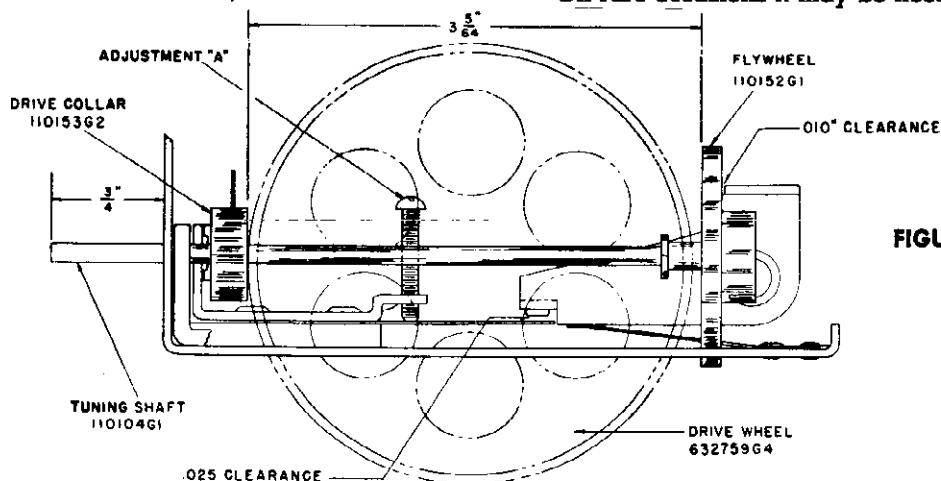
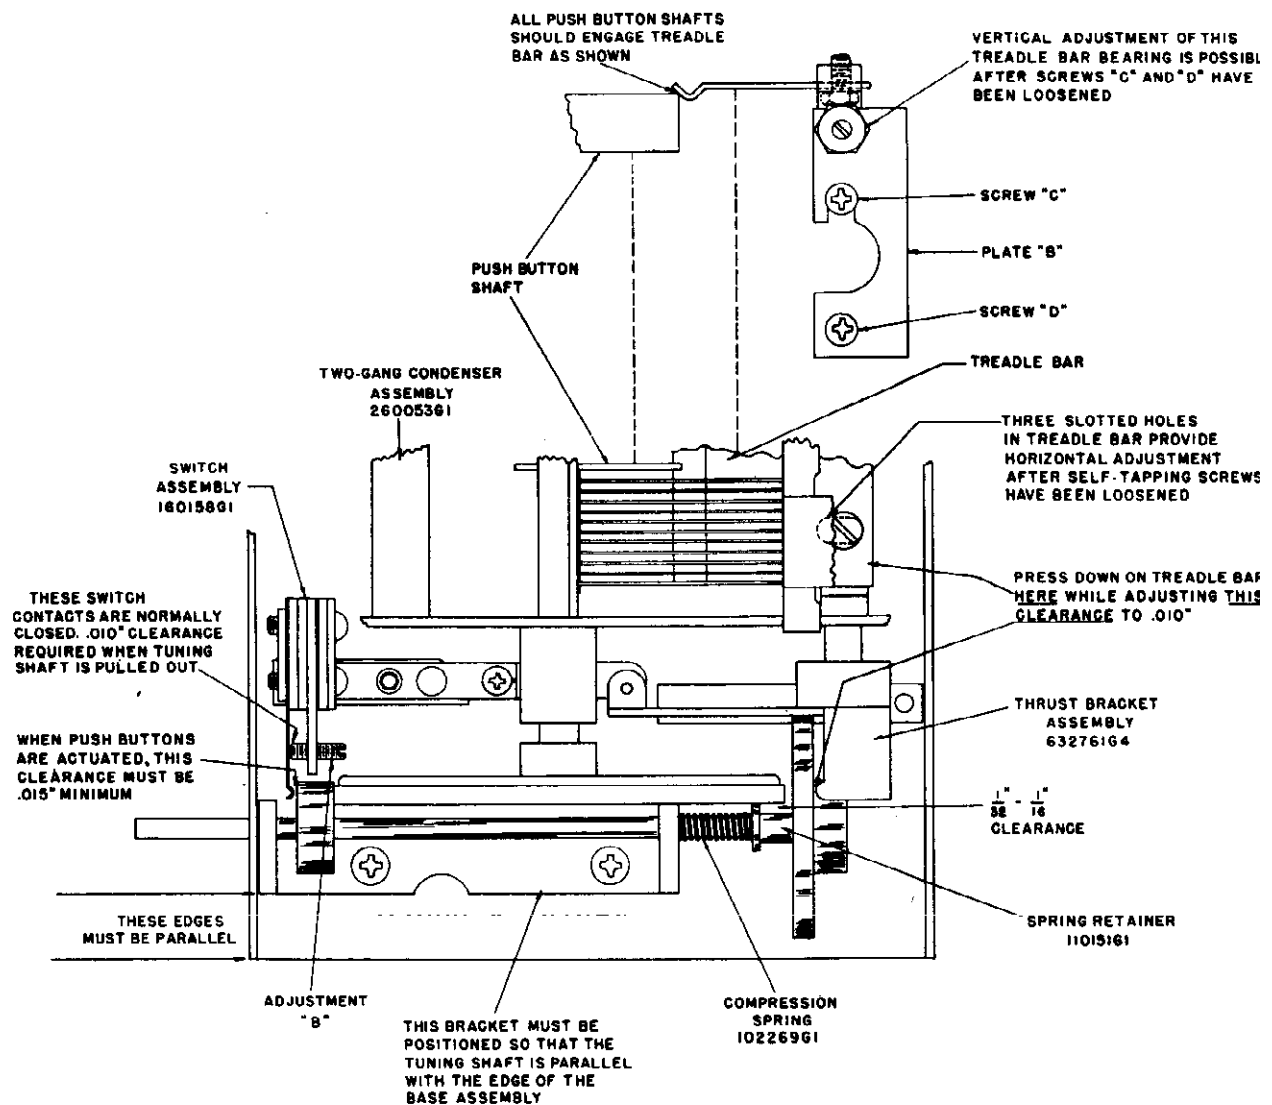

FIGURE 2
FIGURE 3
Whenever any of the mechanical parts in the condenser gang drive assembly require replacement due to rough handling or for any other reason, it is extremely important that clearances and adjustments shown on Figures 2 and 3 are effected; otherwise the tuning mechanism will be sluggish or it may slip during operation.
1. Assemble the Tuning Shaft, Drive Collar, Compression Spring, Spring Retainer and Flywheel in the manner shown on Figure 3. Note that the Tuning Shaft must extend $\frac{3}{4}$ " from the front of the assembly and that the spacing between the rear of the Drive Collar and the front of the Flywheel must be $3\frac{5}{64}$ ". Any excess length in the Tuning Shaft may extend beyond the rear of the Flywheel. See Figure 2.
2. The distance between the rubber-tired Drive Wheel and the smaller diameter section of the Spring Retainer must be $\frac{1}{32}$ " to $\frac{1}{16}$ " (Figure 3). This adjustment is effected by loosening the two No. 6 Allen set screws in the Drive Wheel hub and sliding the wheel on its shaft until the required clearance is obtained. When the adjustment is completed, tighten the two screws in the hub of the Drive Wheel.
3. While pressing down on the Treadle Bar at the location shown on Figure 3, adjust the Thrust Bracket until the clearance between the rear of the Flywheel and the projection on the Thrust Bracket is .010" as shown on the diagram. To make this adjustment, loosen the two No. 6 Allen set screws (use No. 6 Allen Wrench—Magnavox Part No. 800044G2) in the hub of Thrust Bracket and rotate the bracket until the specified clearance is obtained when the push buttons are NOT actuated. Tighten the two screws securely when the adjustment is completed. Press each push button and check that the Drive Collar is pushed away from the rubber-tired Drive Wheel.
4. Next, adjust the clearance in the muting switch contacts by turning the Phillips-head screw designated Adjustment "A" on Figure 2, until the specified clearance of .025" is obtained (when the push but-
This can usually be accomplished by loosening the two screws designated "C" and "D" on Figure 3, and moving plate "B" in the direction required to correct this condition.